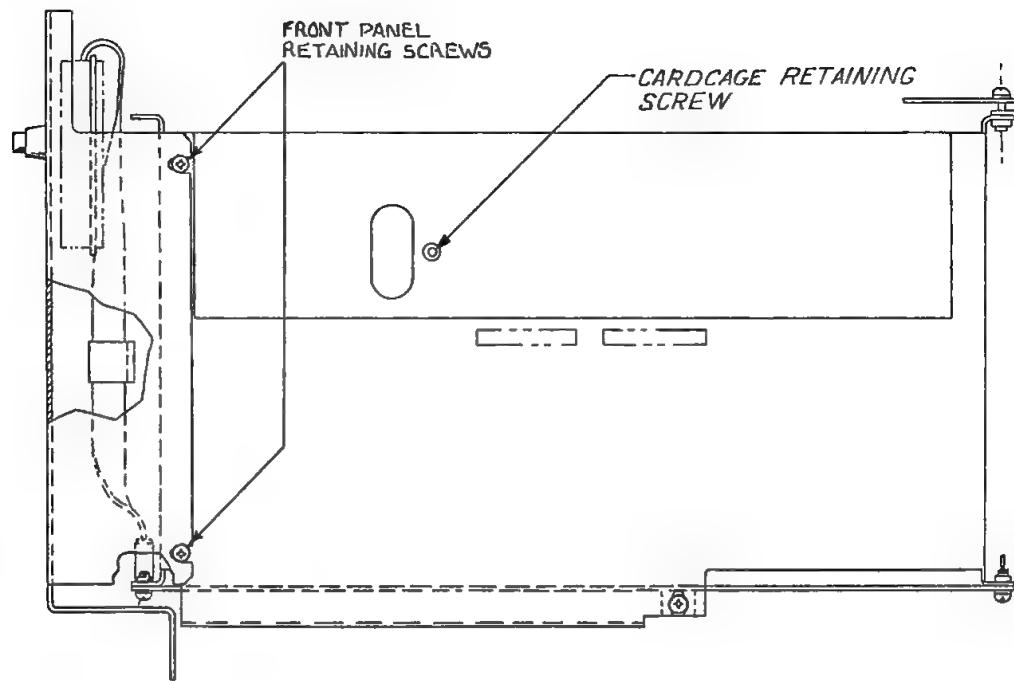

Figure 4-5. Cardcage Side View
- b. Remove the four retaining screws holding the front panel on the cardcage, see Figure 4-5.